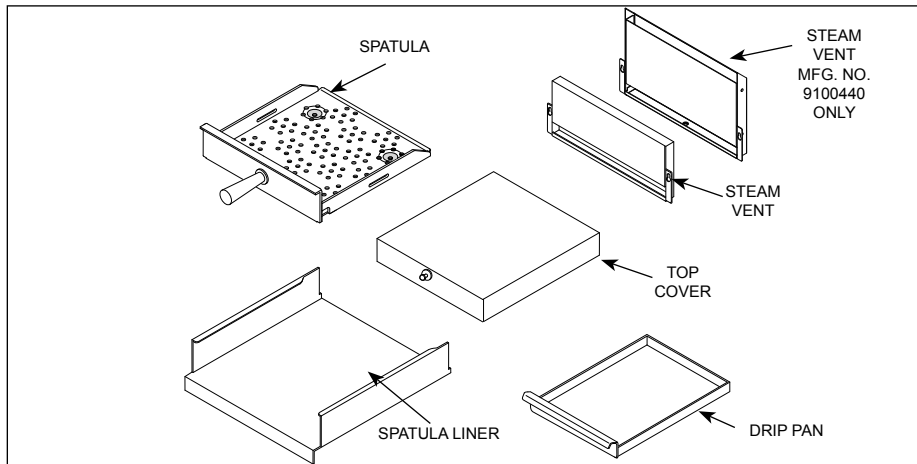

Figure 9. Daily Cleaning–MS-250
4. **MS-250:** Remove the Spatula, Spatula Liner, Drip Pan, Top Cover, and Steam Vent (Figure 9).